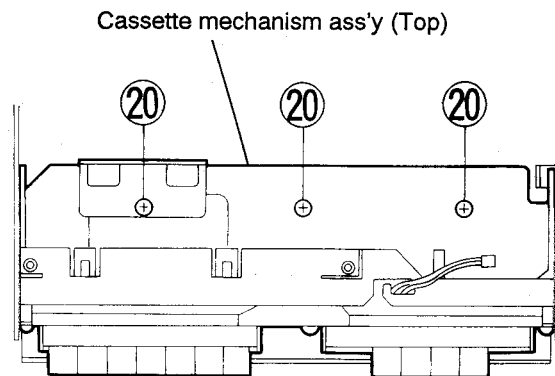

Fig. 5-20
■ How to Remove the Cassette Mechanism Ass'y (Refer to Figs. 5-20 and 5-21)
5. Remove the three screws (20) retaining the cassette mechanism ass'y together with the shield plate.